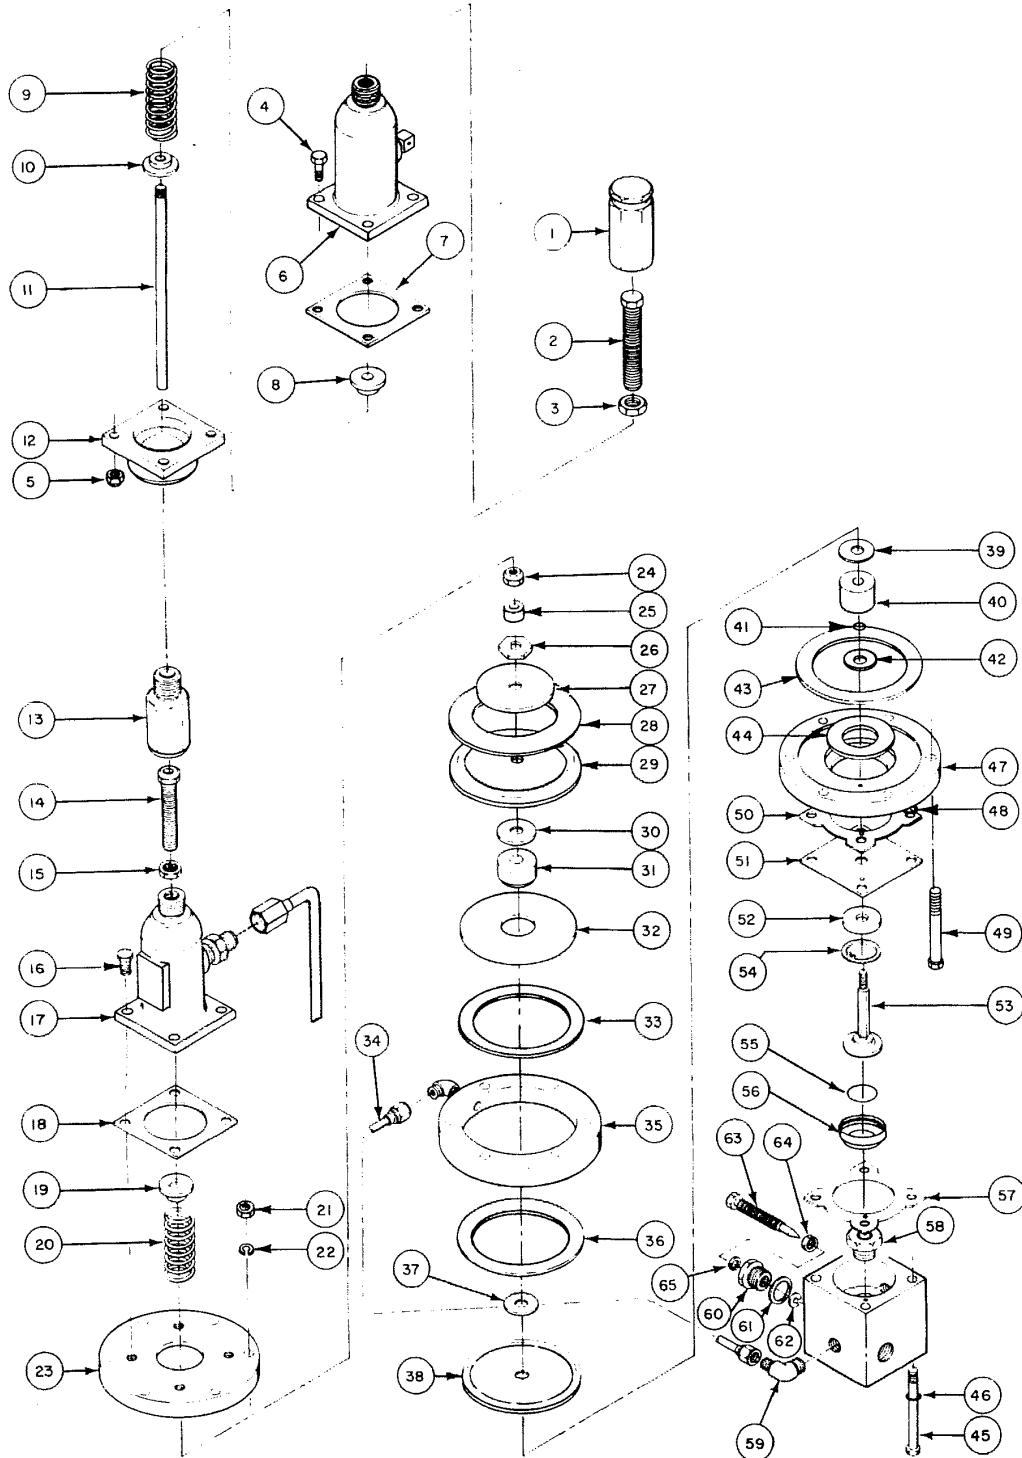

FIGURE 4
**4.0 PILOT MAINTENANCE** (Refer to Figure 4)